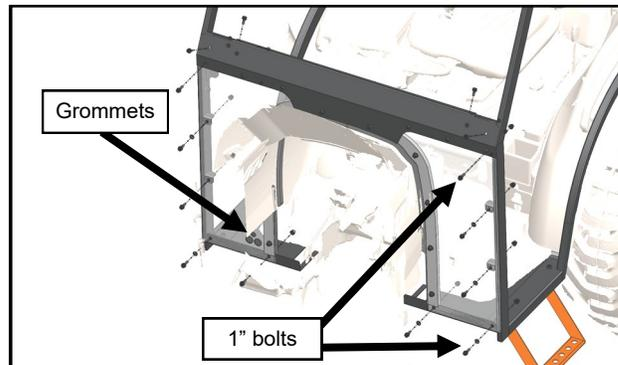

Fig. 5.1 (Cowl)
- 5.1 Install the provided small rubber grommet into the lowest hole in the right side of the cowl. Install the 2 larger grommets in the remaining 2 holes. With assistance, slide the cowl over the top of the hood and engine side covers using **CAUTION** not to scratch the plastic components. Secure the cowl to the side frames with hardware listed below. Use 1 inch long bolts at the corners of the cowl and plastic washers under the heads of any bolts in contact with the plastic parts of the cowl. See Figure 5.1.